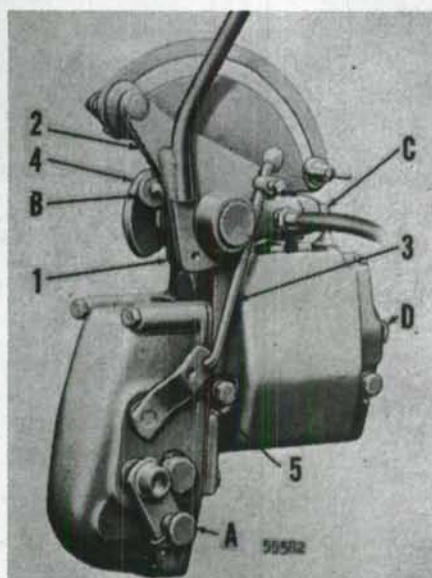

Fig. AC179—Model CA hydraulic lift pump hand control lever. Refer to paragraph 332 for adjustment procedure.
(3). Relock the lock nut (6). With hand control lever in "raised" position, turn screw (9) until a 1/32 inch clearance (X) is obtained between top of shank (10) and underside of slotted head of screw (9).
332. HAND LEVER LINK. The purpose of this adjustment is to establish the correct length of the link rod which connects the hand control lever to the lever on the pump control housing. Turn screw (D—Fig. AC179) out until it contacts the collar on shifter lever shaft. Lock the drawbar by turning screw (A) into control housing. Lock plates (1) and (2) together with screw (B). Loosen set screw, freeing link rod (3) and place hand control lever in down position with point of screw (B) aligned with upper edge of hole (4) in valve body. Now rotate lever (5) downward as far as it will go and tighten the set screw at upper end of link rod (3). Turn screw (C) out until it stops against plug.